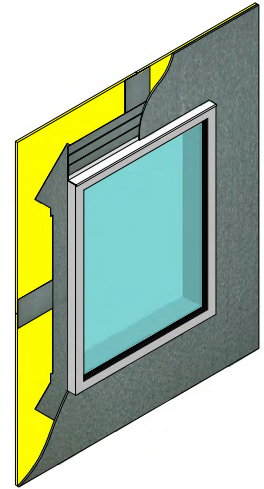

Figure 17
13. Apply Senershield-R/-RS/-VB per the product bulletin instructions over the substrate. (See Figure 17)